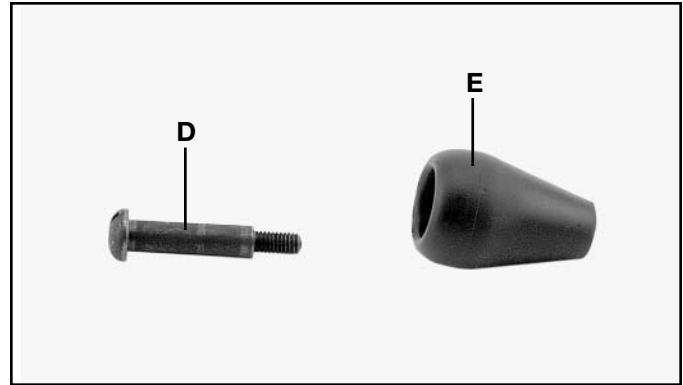
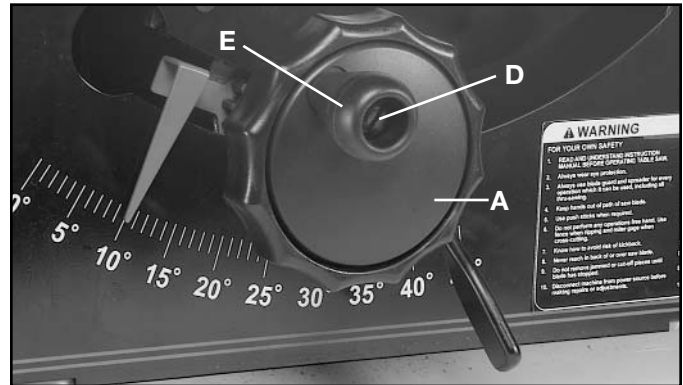

Fig. 4
Fig. 5
1. Insert the 1-3/4" screw (D) Fig. 4, through handle (E). Assemble handle (E) to handwheel (A) by threading screw (D) clockwise into handwheel as shown in Fig. 5. Handle (E) should rotate freely on screw (D).